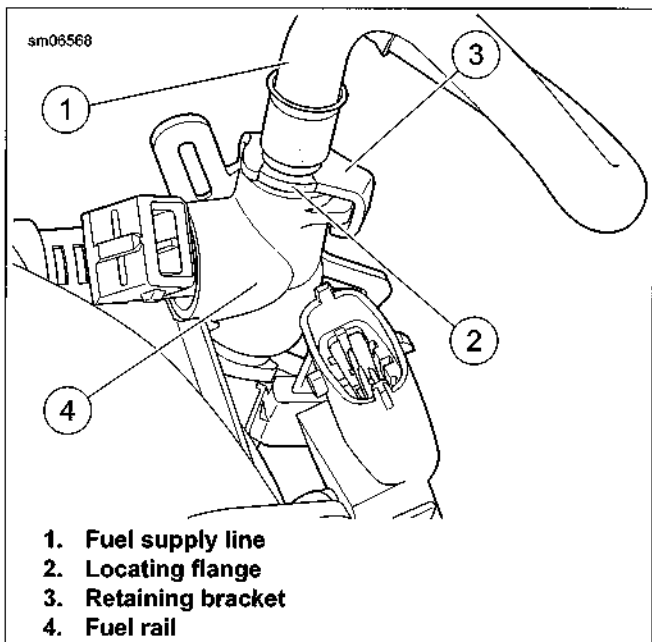

Figure 4-43. Mounting Fuel Hose and Fuel Rail
- a. See Figure 4-43. Orient fuel supply line with locating flange (2) positioned as shown.
- b. Install retaining bracket (3). Fit U-shaped opening in bracket around fuel supply line and locating flange.